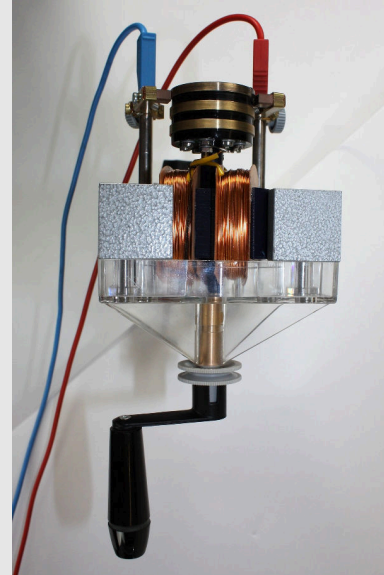
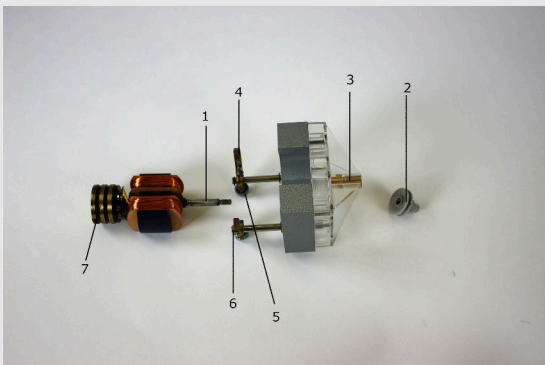

Fig. 1
Fig. 2
- Assemble the motor attachment according to fig. 1 and fig. 2.
- Place the abrasive brushes [4] of the motor attachment on the interrupted slip ring [7] as shown in Fig. 2 and fasten them with the knurled screws [5] so that the springs are tensioned and the brushes press on the slip rings.
- Assemble the motor as in experiment part 1 (fig. 1 and 2).